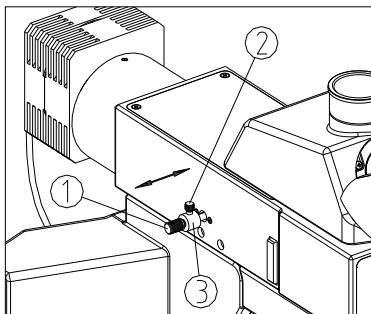

Fig.34
It can be switched by the rod①, when the rod is pushed to the innermost, the system is in the oblique illumination observation, otherwise it is in the normal reflected illumination observation (See Fig. 34).
The position of the limit block③ can be adjusted according to the various requirements for different samples observation. When adjusting, first loosen the lock screw② on the limit block③, then move the limit block③ according to the direction as shown in Fig. 34, and lock the lock screw② when adjusted to the appropriate position.